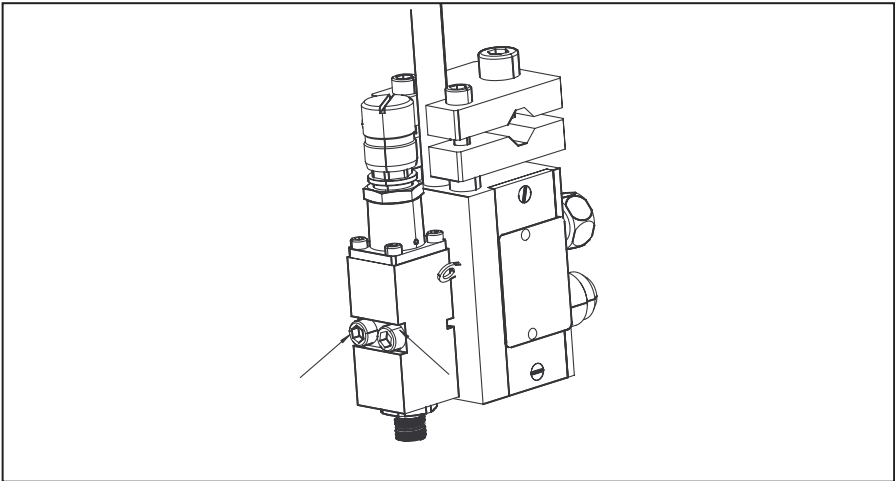

Bild 3: Replacement of the B400-FJ module
4. Loosen the screws (M5) illustrated in fig. 3 with a hexagon socket wrench (4 mm) and remove them.